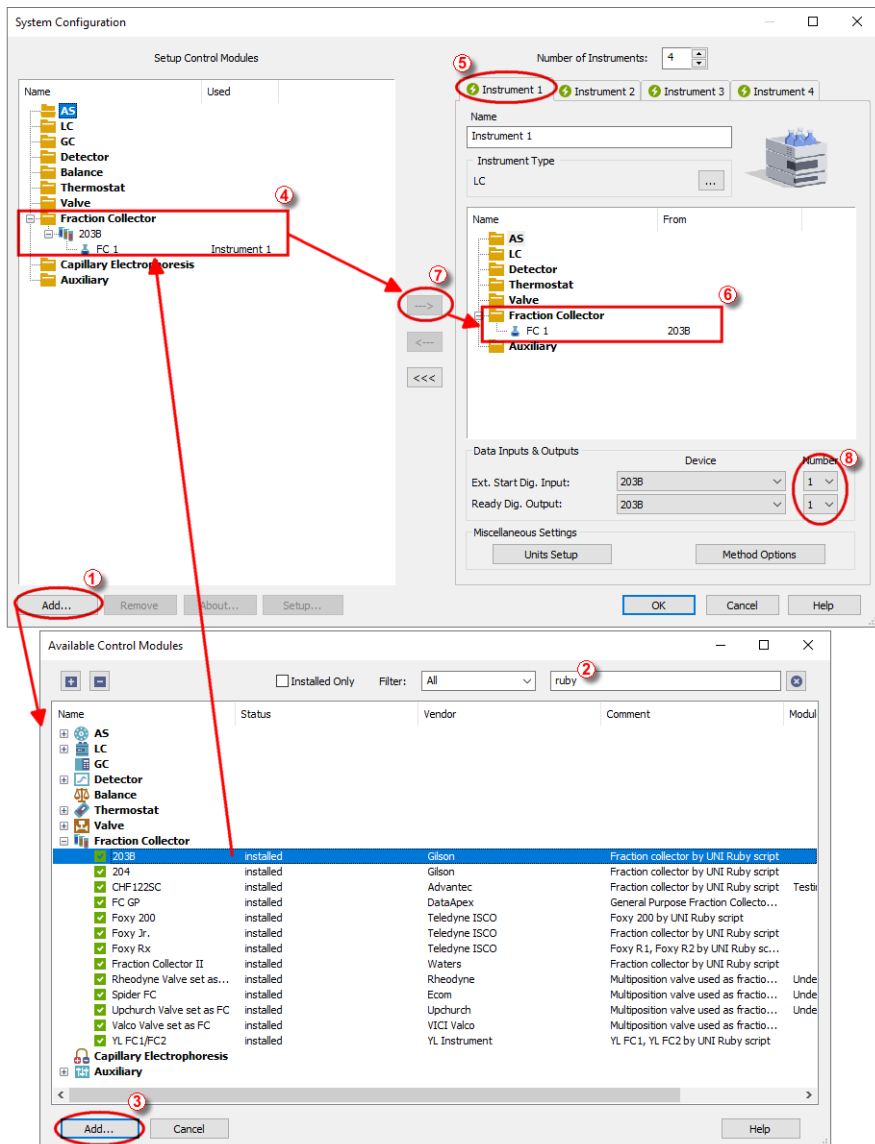

Fig 2: How to Add UNI Ruby module
- Press the **Add** button (① on **Fig 2** on pg 4.) to invoke the **Available Control Modules** dialog.
- You can specify the search filter (②) to simplify the finding of the driver.
- Select the correct item and press the **Add** (③ on **Fig 2** on pg 4.) button. Each device with already created UNI profile should have its own item named accordingly in the **Available Control Modules** dialog.